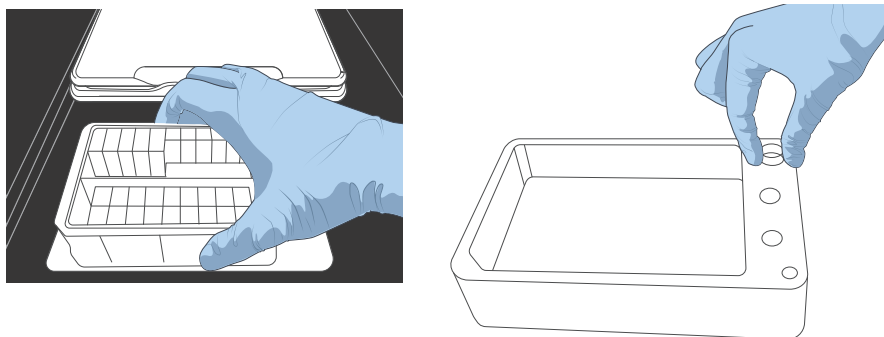

Figure 6 Post-loading plate placement diagram
7. Place the 0.5 mL micro tube containing DNB loading mix into the DNB tube hole (see *Figure 6 on Page 53*), the screen will prompt that the DNB tube is loaded.